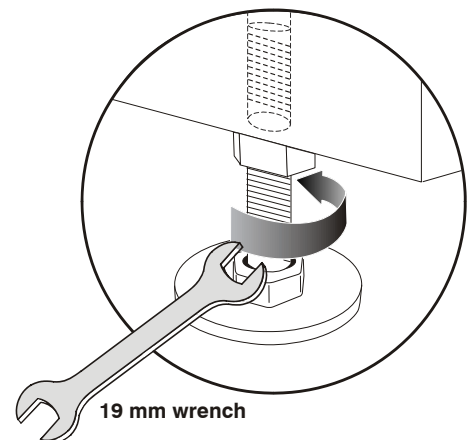

Figure 5-21 Replace Feet
1. Using a 19mm wrench, loosen the foot lock nut. **(Figure 5-21)**